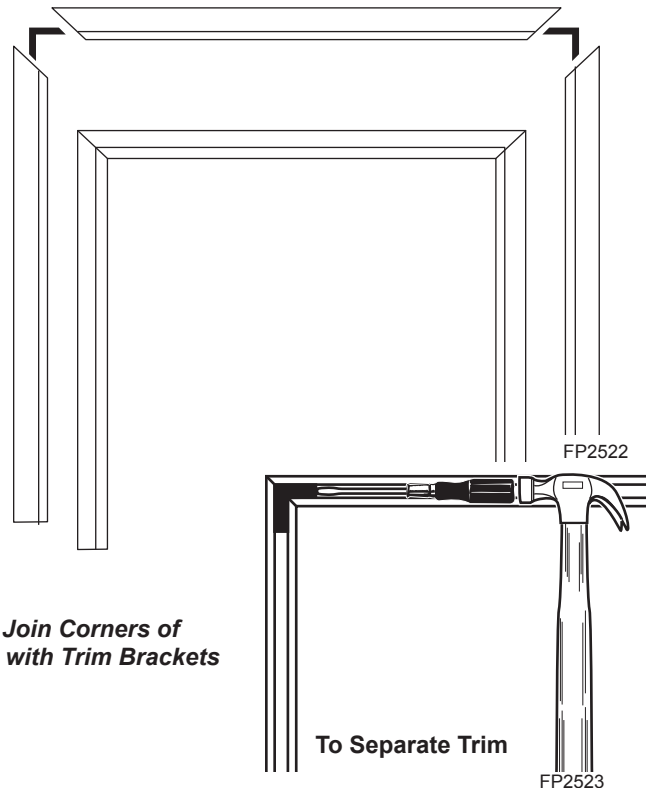

Figure 38 - Match and Join Corners of Black Trim with Trim Brackets
1. Remove black trim from protective packaging. Remove four (4) black screws and two (2) 90° angle trim brackets from owner's manual packaging.
2. Lay trim on floor and match corners of side trims to top trim. *Figure 38*
- Use one 90° angle trim bracket to join the corner of one piece of side trim to the corner of the top trim piece. *Figure 38*. A rubber hammer or handle of a claw hammer will help secure the corners.